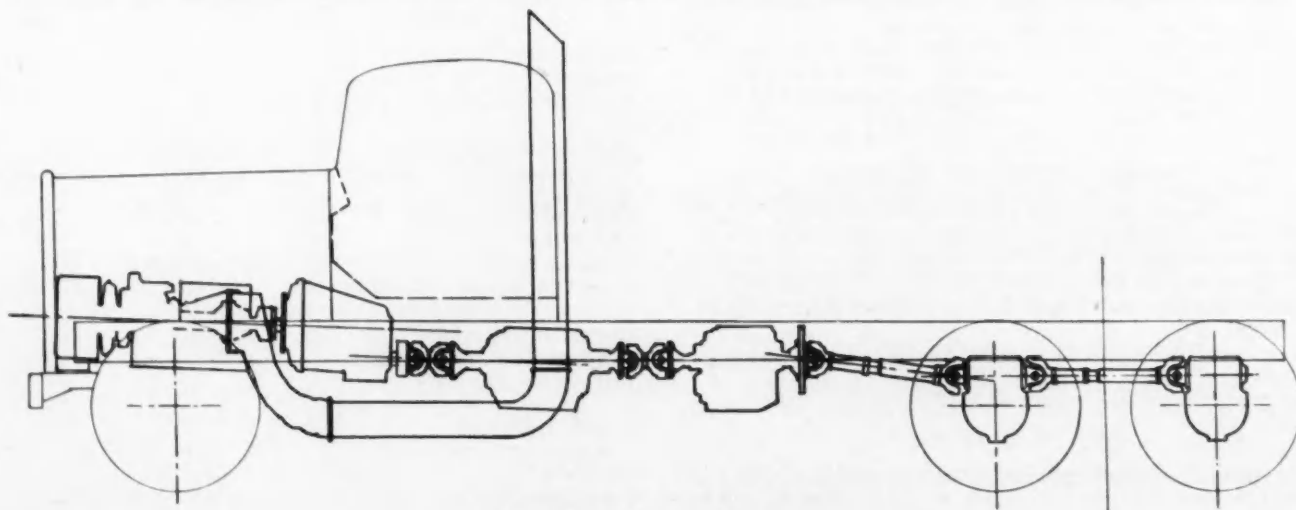

Fig. 2—Arrangement of test truck
The test vehicle is shown in Fig. 2. Starting at the front of the truck, principal units of the power train are the turbine unit (including air-intake silencer), coupling, marine reverse gear with 1 to 1 ratio in both forward and reverse, a seven-speed plus reverse planetary transmission, a Spicer 8031 three-speed auxiliary gearbox, and finally the rear-axle bogey hook-up. The marine reverse gearbox serves two purposes: (1) It transforms the rotation of the powerplant, which is opposite from conventional truck engines, to the conventional rotation required by the rest of the power train. (2) It makes possible power retarding.